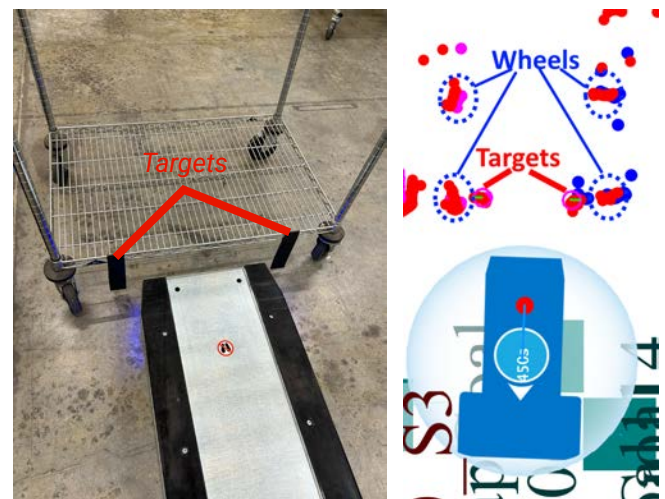

Figure 6-12 Cart with Rigid Targets
- a. **Rigid Target:** In this variation, two solid rectangles are attached next to the wheels of the cart in the front to act as a target as shown in Figure 6-12.